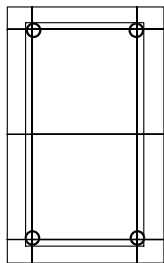

fig. 3
3. Mark the wall panel where you wish to install the shelf (fig. 3)
5. Drill a 5/8" hole in each corner of your outline. Be sure not to drill outside the marked lines (fig. 3).